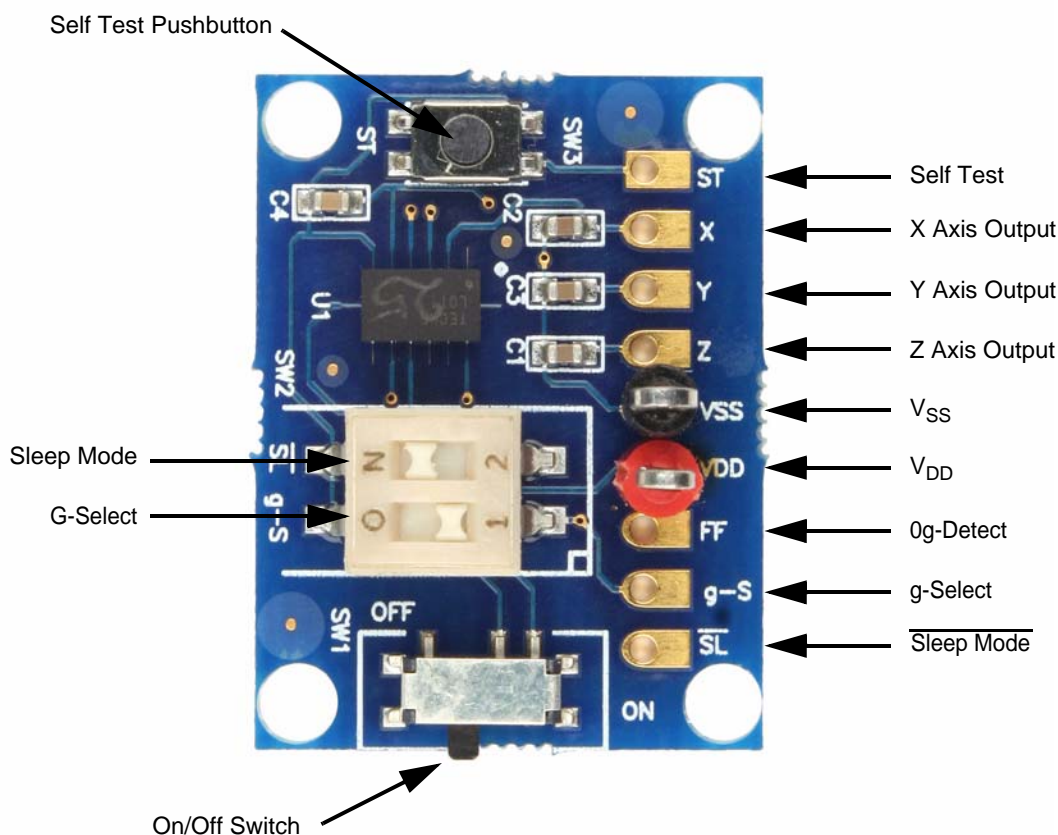

Figure 4. Evaluation Board Components
2. Turn the side on/off switch into the “on” position as shown in Figure 4. The on/off switch provides power to the accelerometer and helps preserve battery life if a battery is being used as the power source. Therefore SW1 must be set toward the “on” position for the accelerometer to function.
3. Using a thin pointed tool turn the sleep mode dipswitch (SW2) to the “on” position as shown in Figure 4, or you can also power the sleep mode using the solder pad available. This enables the device. A low signal (0) will bring the board into sleep mode which puts it in a power saving mode. In this state there will be no X, Y or Z outputs on these output solder pads. For normal device operation though the sleep mode must be in the “on” position.
6. The g-Select is shown in Figure 4 (SW2) in the lower of the two possible g-modes. You can also use the solder pad “G\_S” to access and change the g-mode.